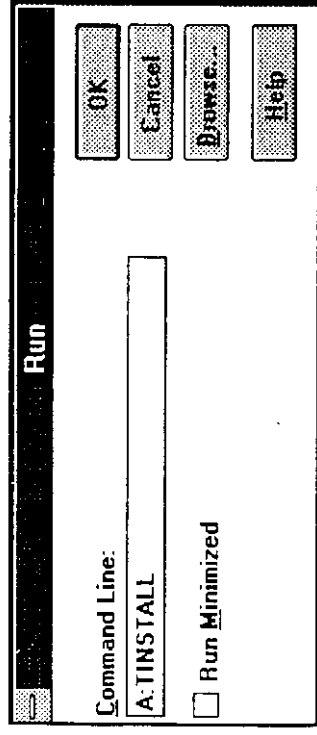

Figure 3-10.
5. TYPE in "TINSTALL" (if the display driver disk is in the B drive then TYPE in "TINSTALL") and then PRESS ENTER (see Figure 3-10).